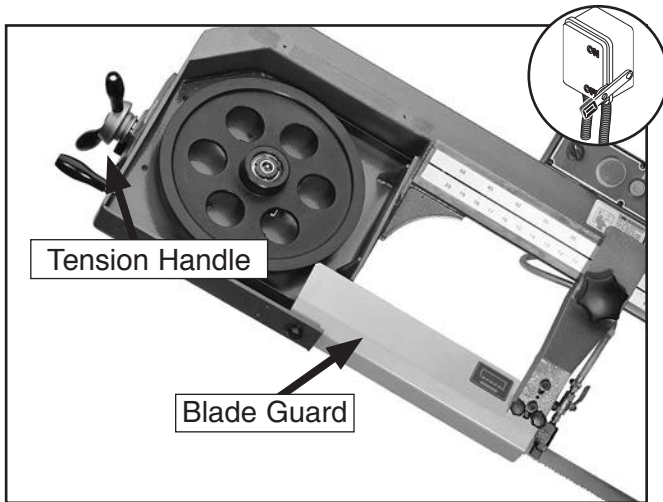

Figure 40. Tension handle and blade.
3. Slide the blade guard all the way down as shown in **Figure 40**.
5. Loosen the blade tension handle in **Figure 40** and slip the blade off of the wheels.